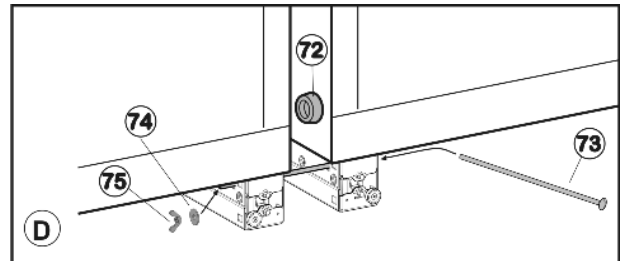

Fig. 67
- ▶ Insert long carriage bolt Fig. 67 (73).
- ▶ Push washer Fig. 67 (74) and nut Fig. 67 (75) onto the screw. Tighten nut until the spacer Fig. 67 (72) is touching the opposite side wall.